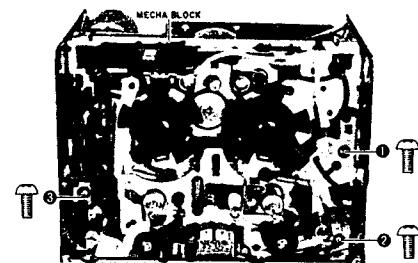

Fig. 3-7
- 3) Remove motor block securing screws ③, ④ and ⑤ from the mechanism block's front side. Remove the motor block from the mechanism block. (Refer to Fig. 3-7)